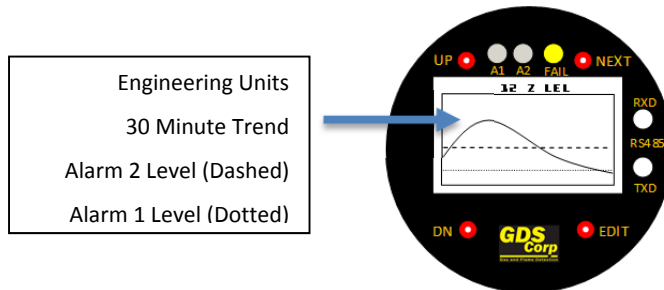

Figure 4-6: GASMAX Trend Display
Typical MODBUS wiring is shown in Figure 4-6. MODBUS system architecture requires that the devices in any MODBUS loop be connected in a daisy-chain layout. This minimizes signal reflections and improves signal noise margin. A MODBUS Termination Jumper installs a load resistor across the MODBUS signal lines and should only be set to “A” (ON) **at the last device in the string.**
GASMAX II monitors with remote-mount toxic sensors are shipped in two pieces and sensor wiring must be installed by the end user. Remote toxic sensors connect to the Channel 1 Simple Sensor input on the **back of the Display Assembly** as shown in Figure 4-6.